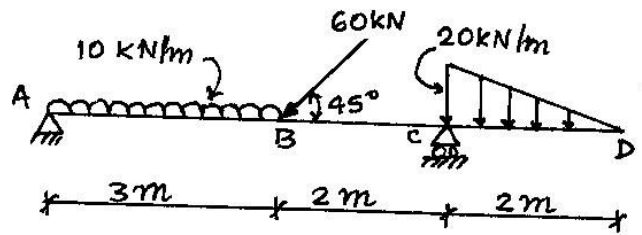

FIG 6. Q 3 (b) OR
- (b) Calculate reactions at support due to applied load on the beam as shown in **fig. 6**. **05**